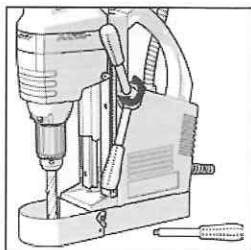

Fig. 1
- Attach the three handles into the spindle hub ensuring that they are fully seated. (**Fig. 1**)